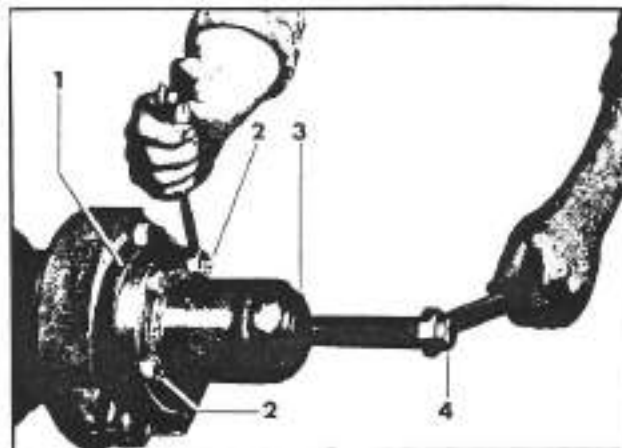

Fig. 3-59. Removal of the wheel hub flange
- b. Mount on the flange (1; fig. 3-59), by means of five bolts (2; fig. 3-59), the proper pulling tool (3; fig. 3-59).
The puller tool (3; fig. 3-59) for the removal of the wheel hub flange (1; fig. 3-59), can only be obtained from FERRARI Company.
- c. Turn the hexagonal head of the puller tool (4; fig. 3-59) in a clockwise direction and extract the flange (1; fig. 3-59). Separate the flange from the puller tool.
- For remounting the wheel hub flange (1; fig. 3-59), the flange must be heated to a temperature between 150 and 200°C (300 and 390°F). Place the flange on the shaft and seat it properly. Let cool.